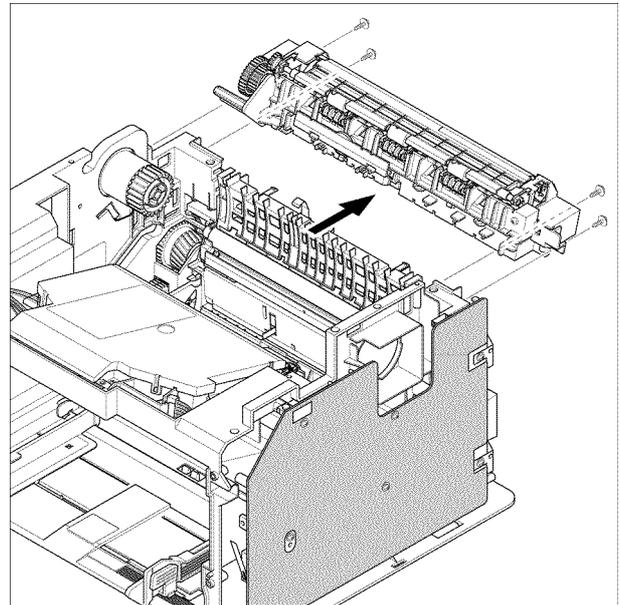

Figure 2
3. Remove 4 screws, then the fuser assembly, Figure 2.